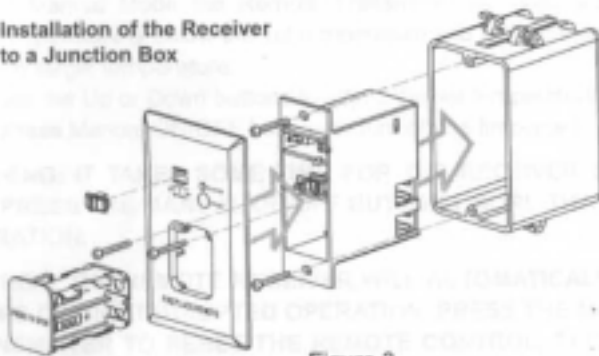

Figure 3
- Secure the Remote Receiver to the Wall Mount. See Figure 3.